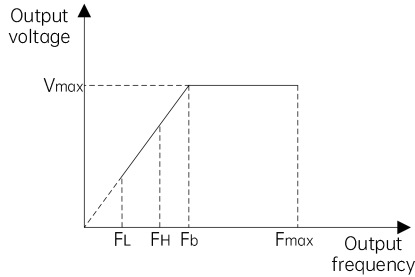

Fig. 7-6 Frequency limit parameter definition
The maximum output frequency is the highest frequency allowed by the drive, such as  $F_{max}$  in Fig. 7-6;
The upper limit frequency is the highest frequency allowed in operation set by the user, such as  $FH$  in Fig. 7-6;
The lower limit frequency is the lowest frequency allowed in operation set by the user, such as  $FL$  in Fig. 7-6;
Fb in Fig. 7-6 is the basic operating frequency, defined as the minimum corresponding output frequency when the drive outputs the highest voltage in the V/F mode.
- (1) The maximum output frequency, upper limit frequency and lower limit frequency should be carefully set according to the actual nameplate parameters of the controlled motor and the needs of the operating conditions.
- (2) The limit range of the upper and lower frequency has no effect on the JOG operation, but it will affect the auto-tuning of the motor (parameter identification).
- (3) In addition to the upper limit frequency and lower limit frequency, the output frequency of the drive during operation is also limited by the startup frequency, start frequency of DC braking at stop, skip frequency and other parameters.
- (4) Fig. 7-6 shows the relationship between the maximum output frequency, upper limit frequency, and lower limit frequency. Note the value ranges during setting.
- (5) The upper and lower frequency limits are used to limit the actual output frequency to the motor. If the frequency reference is higher than the upper limit frequency, the device will run at the upper limit frequency; if the frequency reference is lower than the lower limit frequency, the device will run at the lower limit frequency; and if the frequency reference is lower than the startup frequency, the device will run at zero frequency.